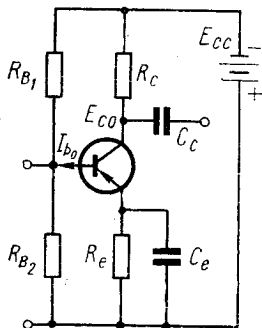

Fig. 18. Transistor common-emitter amplifier stage
2. The current in Fig. 18 illustrates a typical stage of the common-emitter connection transistor amplifier.¹ In this diagram resistors R_{B1} , R_{B2} and R_C provide the required bias to the collector and base.